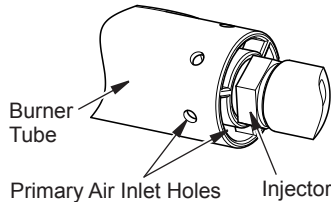

Figure 25 - Burner and Injector Holder
2. Inspect burner, pilot and primary air inlet holes on injector for dust and dirt (see Figure 25).